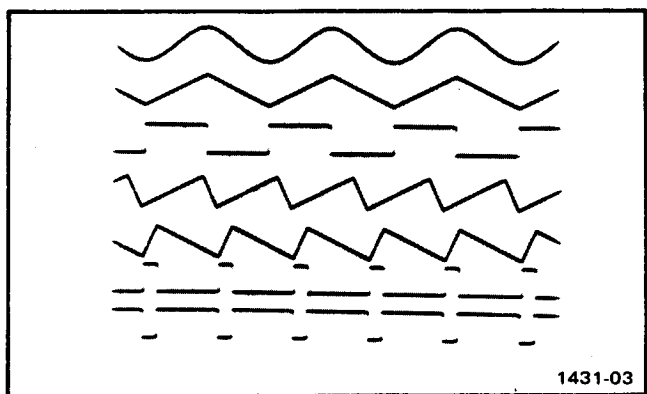

Fig. 1-5. Output waveforms available from the FG 501.
2. Set the FUNCTION selector to the desired waveform (see Fig. 1-5).